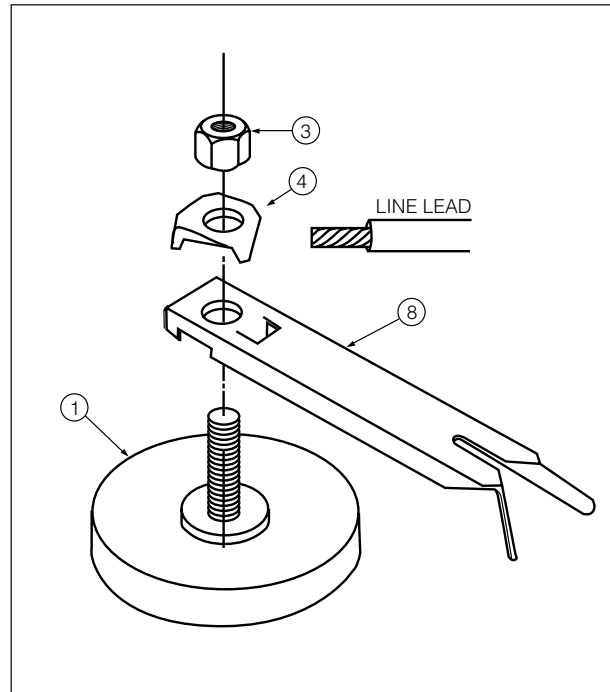

Figure 4. Detail of arrester line terminal connections.
2. Attach the transformer mounting bracket to the transformer sidewall as shown in Figure 4. Note that the grounding strap (item 6) is connected to the lower of the two mounting studs.